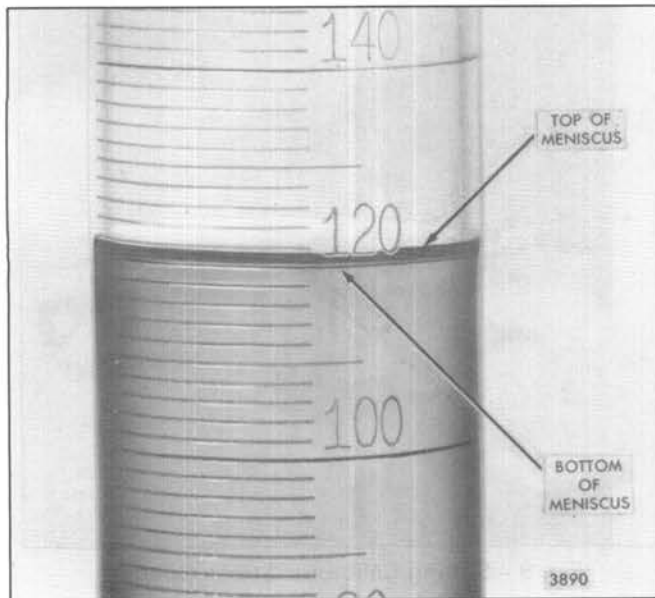

Fig. 10 – Checking Fuel Output
1. **Operator Errors:** If the column of liquid in the vial is read at the top of the meniscus instead of at the bottom, a variation of 1 or 2 points will result. Refer to Fig. 10.